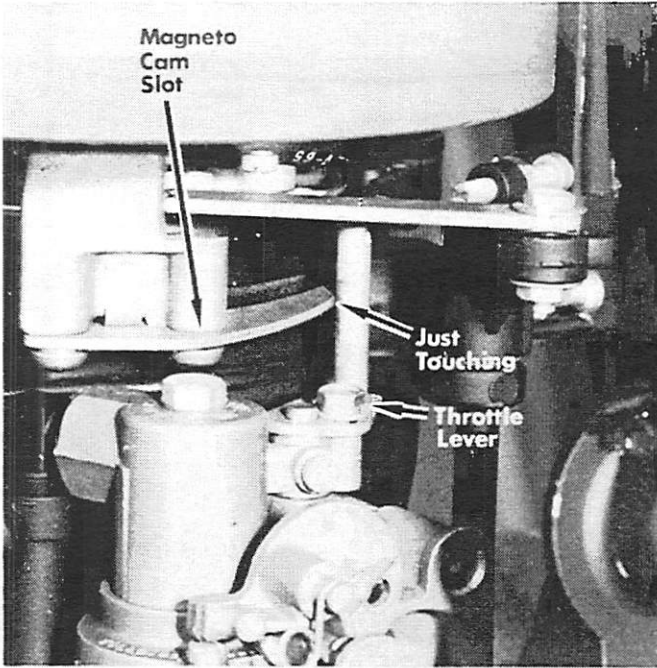

Figure 3. Throttle Pick-up Adjustment
1. With engine running in "Forward" gear, turn twist grip throttle to obtain 1000 to 1100 RPM. At this point, magneto cam should just touch throttle lever on carburetor. (Figure 3)
NOTE: On later model 1968 engines, the magneto cam (Figure 3) also is slotted for a finer adjustment of pickup point.